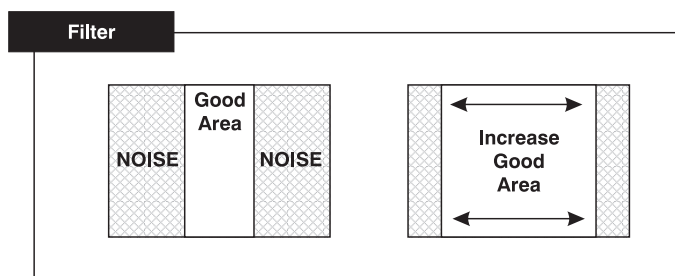

Figure 3.11. Adjust Filter
3. If the image is still too noisy, return to **Pixel Tracking** and “mis-adjust” so that 2 vertical bands of noise appear, separated by a good center band. See Figure 3.11.
4. Adjust **Filter** to maximize the width of the good area. See Figure 3.11.